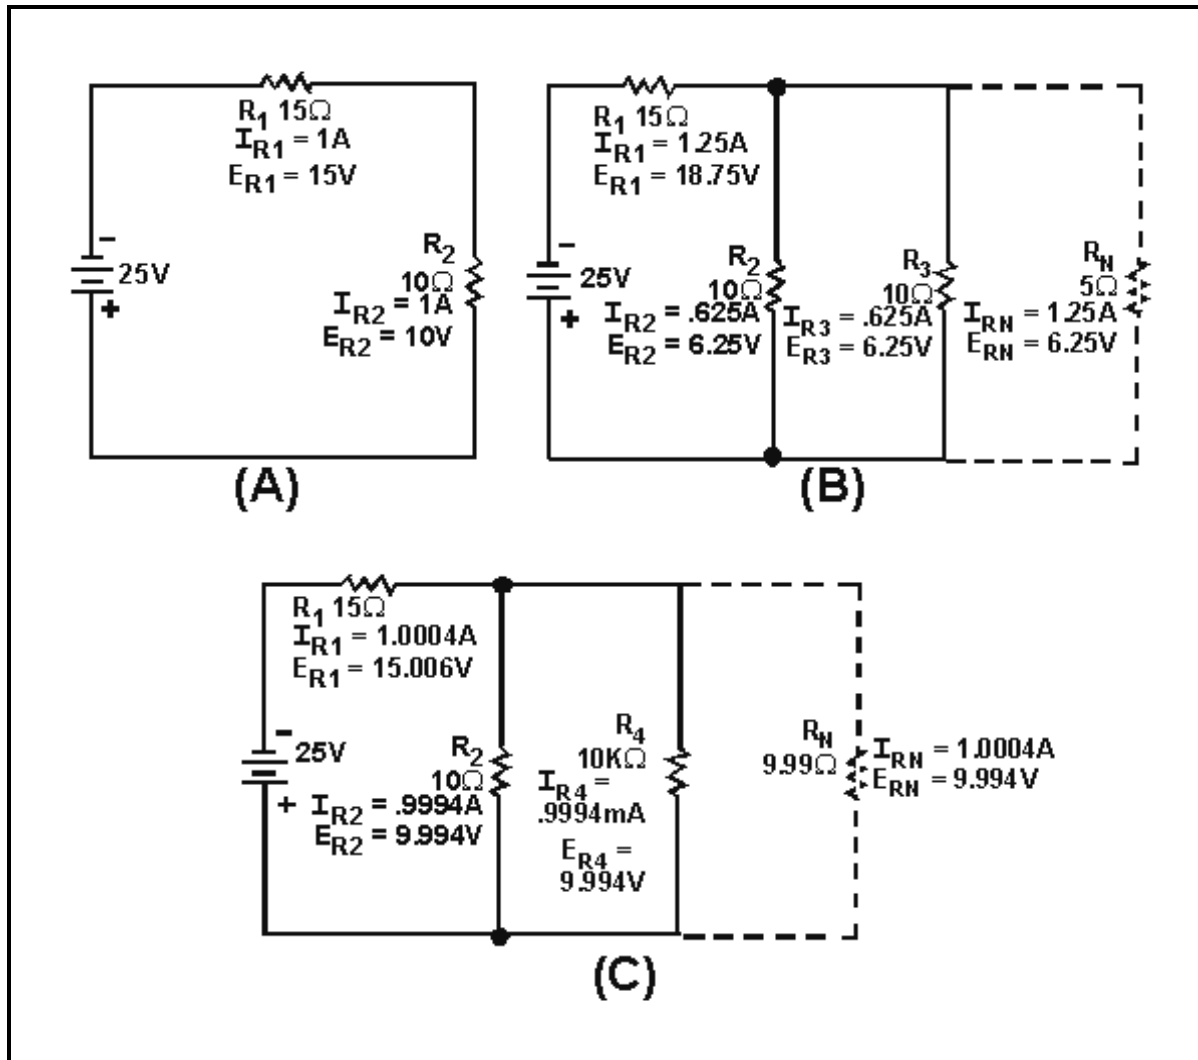

Figure 1-26.—The loading effect.
A voltmeter has an effect on the circuit being measured. This is called **LOADING** the circuit. Figure 1-26 illustrates the loading effect and the way in which the loading effect is kept to a minimum.
In figure 1-26(A), a series circuit is shown with R_1 equaling 15 ohms and R_2 equaling 10 ohms. The voltage across R_2 (E_{R2}) equals 10 volts. If a meter (represented by R_3) with a resistance of 10 ohms is connected in parallel with R_2 , as in figure 1-26(B), the combined resistance of R_2 and R_3 (R_N) is equal to 5 ohms. The voltage across R_2 and R_3 is now 6.25 volts, and that is what the meter will indicate. Notice that the voltage across R_1 and the circuit current have both increased. The addition of the meter (R_3) has loaded the circuit.
In figure 1-26(C), the low-resistance meter (R_3) is replaced by a higher resistance meter (R_4) with a resistance of 10 kilohms. The combined resistance of R_2 and R_4 (R_N) is equal to 9.99 ohms. The voltage across R_2 and R_4 is now 9.99 volts, the value that will be indicated on the meter. This is much closer to the voltage across R_2 , with no meter (R_3 or R_4) in the circuit. Notice that the voltage across R , and the circuit current in figure 1-26(C) are much closer to the values in 1-26(A). The current (I_{R4}) through the meter (R_4) in figure 1-26(C) is also very small compared to the current (I_{R2}) through R_2 . In figure 1-26(C) the meter (R_4) has much less effect on the circuit and does not load the circuit as much. Therefore, a voltmeter should have a high resistance compared to the circuit being measured, to minimize the loading effect.